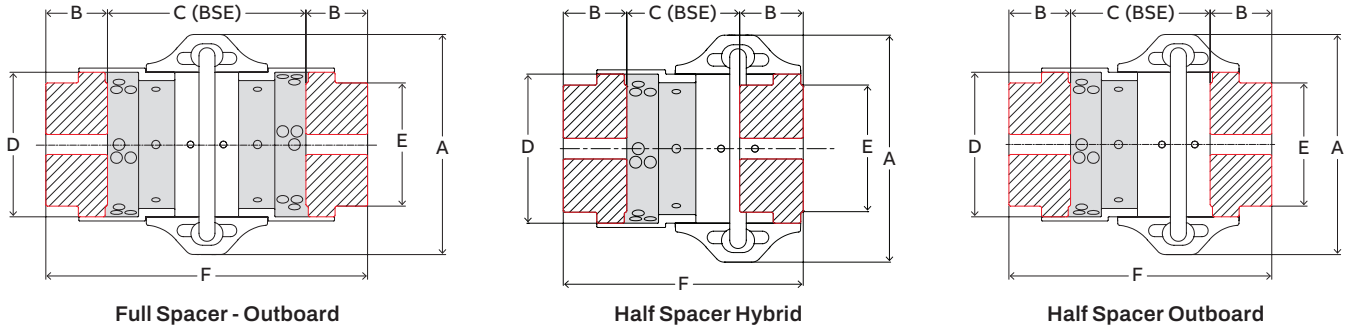

Figure 5 - Hub Orientation Options for Finished Bore
1. Hubs may be oriented as seen in Figure 5. Depending on shaft spacing requirements, determine the best hub orientation using Table 5.